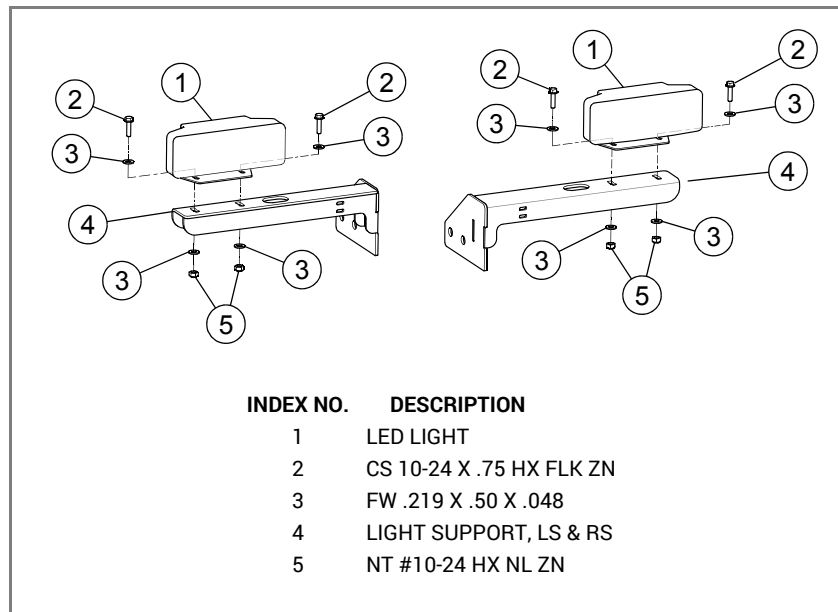

FIG. 1
3. Locate the light supports and the lights. Attach the lights to the light supports. FIG. 1